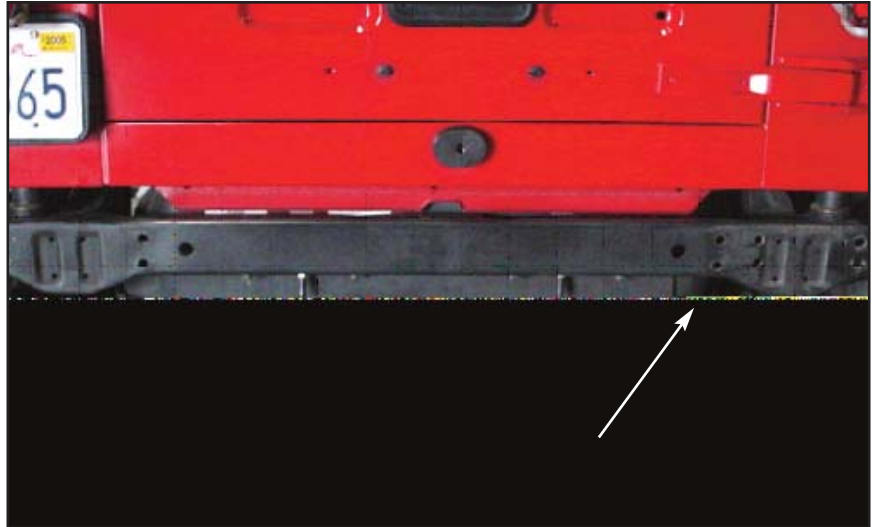

FIGURE 1
4. Caution: Use Extreme care and caution before drilling. Make sure to check backside of frame for hazards and obstructions. Using a 7/16" bit, drill the marked holes. (Figure 1)